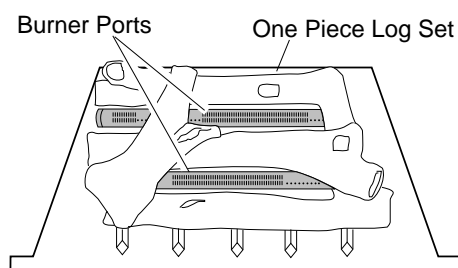
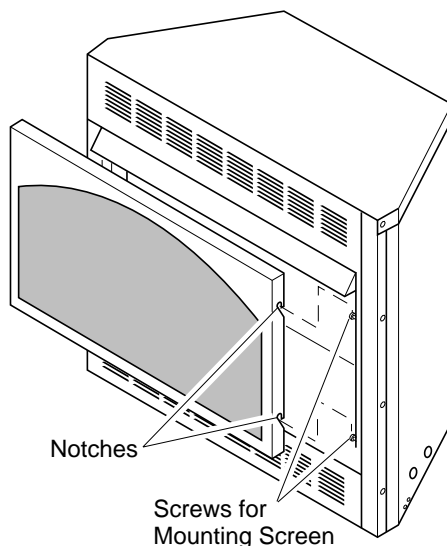

Figure 23 - Installing One Piece Log Set (Top View)
Figure 24 - Installing Fireplace Screen
1. Place one-piece log set on grate to fit as illustrated in Figure 23. Make sure middle section at bottom of log set is seated into "U"-shaped cutout in center of chassis (see Figure 24).